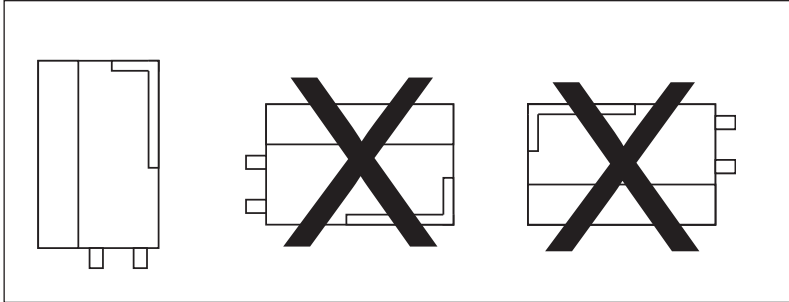

Fig. 4
Attention must be paid to the position and location of the XTP-Sensor. Fig. 4 shows the required position. Failure to follow this instruction may result in an inoperable system. The XTP-Sensor should be mounted within fifty (50) feet of the outdoor pressure probe.